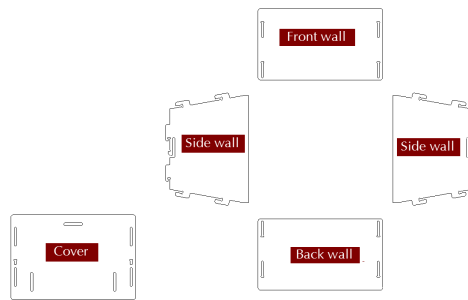
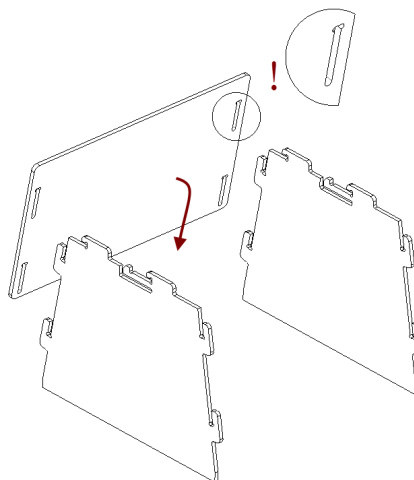
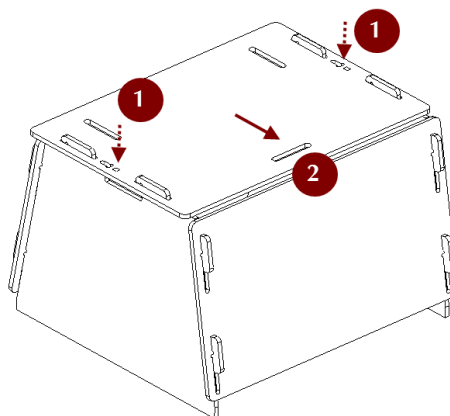

Figure 11.13.: Parts of the scanner stand.
Figure 11.14.: Assembling the front wall.
Figure 11.17.: Latching the cover.
The scanner stand comes unassembled with Artec Spider and consists of five parts (see Figure 11.13.): two side walls, one front and one back wall (these parts are identical, however), and a cover. Before beginning assembly, lay them all out as Figure 11.13. shows. Then follow these steps:
1. Raise the two side walls to the upright position, as Figure 11.14. shows. Noting carefully the orientation of the T-shaped slot, install the front wall to the side walls using the two pairs of hooks. Press the front wall and slide it down against the stop. Make sure the three walls are properly aligned with each other.
4. Press your thumbs against the T-shaped holes on the cover and shift it toward the back wall until you hear a click (see Figure 11.17.).
Note: To disassemble the stand, release the detents in the cover's T-shaped slots (see Figure 11.13.) using a thin object like a ballpoint pen. Repeat the assembly steps in reverse order (from Figure 11.17. to Figure 11.14.), moving the parts in the opposite directions.